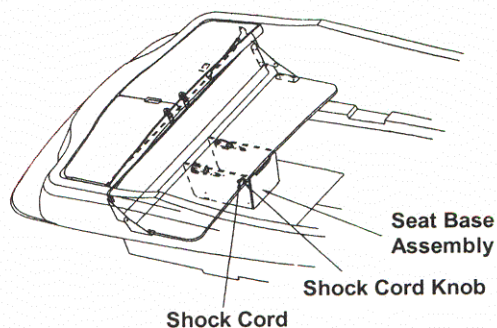

Figure K3: 170H/180H Sunsport and 170 LS Sunsport Benchseat
5. Secure the shock cords around the knobs on the seat base assembly. See Figure K3.